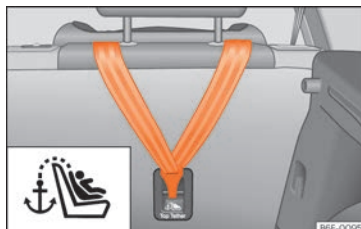

Fig. 42 Rear part of the rear seats: securing rings for the Top Tether strap.
- Slide the strap and secure it properly with the anchorage of the backrest » **Fig. 42**.